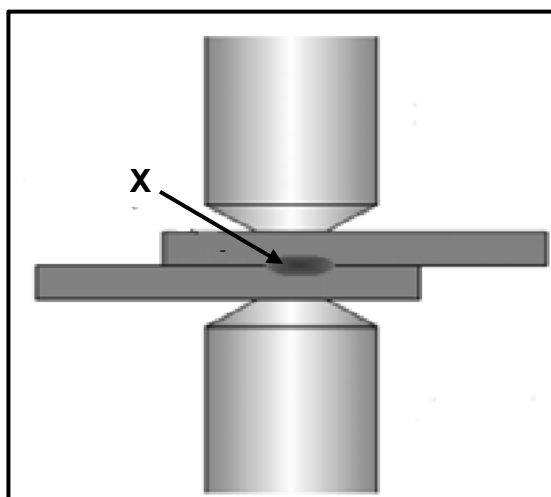

FIGURE 4.6
- (1)
4.6 FIGURE 4.6 below shows a resistance welded joint. Identify X.